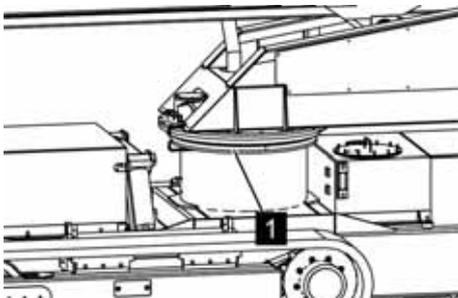

Fig. 135: Lubricating the rotating assembly
2. ▶ Use the grease gun on the grease nipples (Fig. 135/1) of the rotating assembly to insert high-performance lubricant (Item no. 3917/0130).